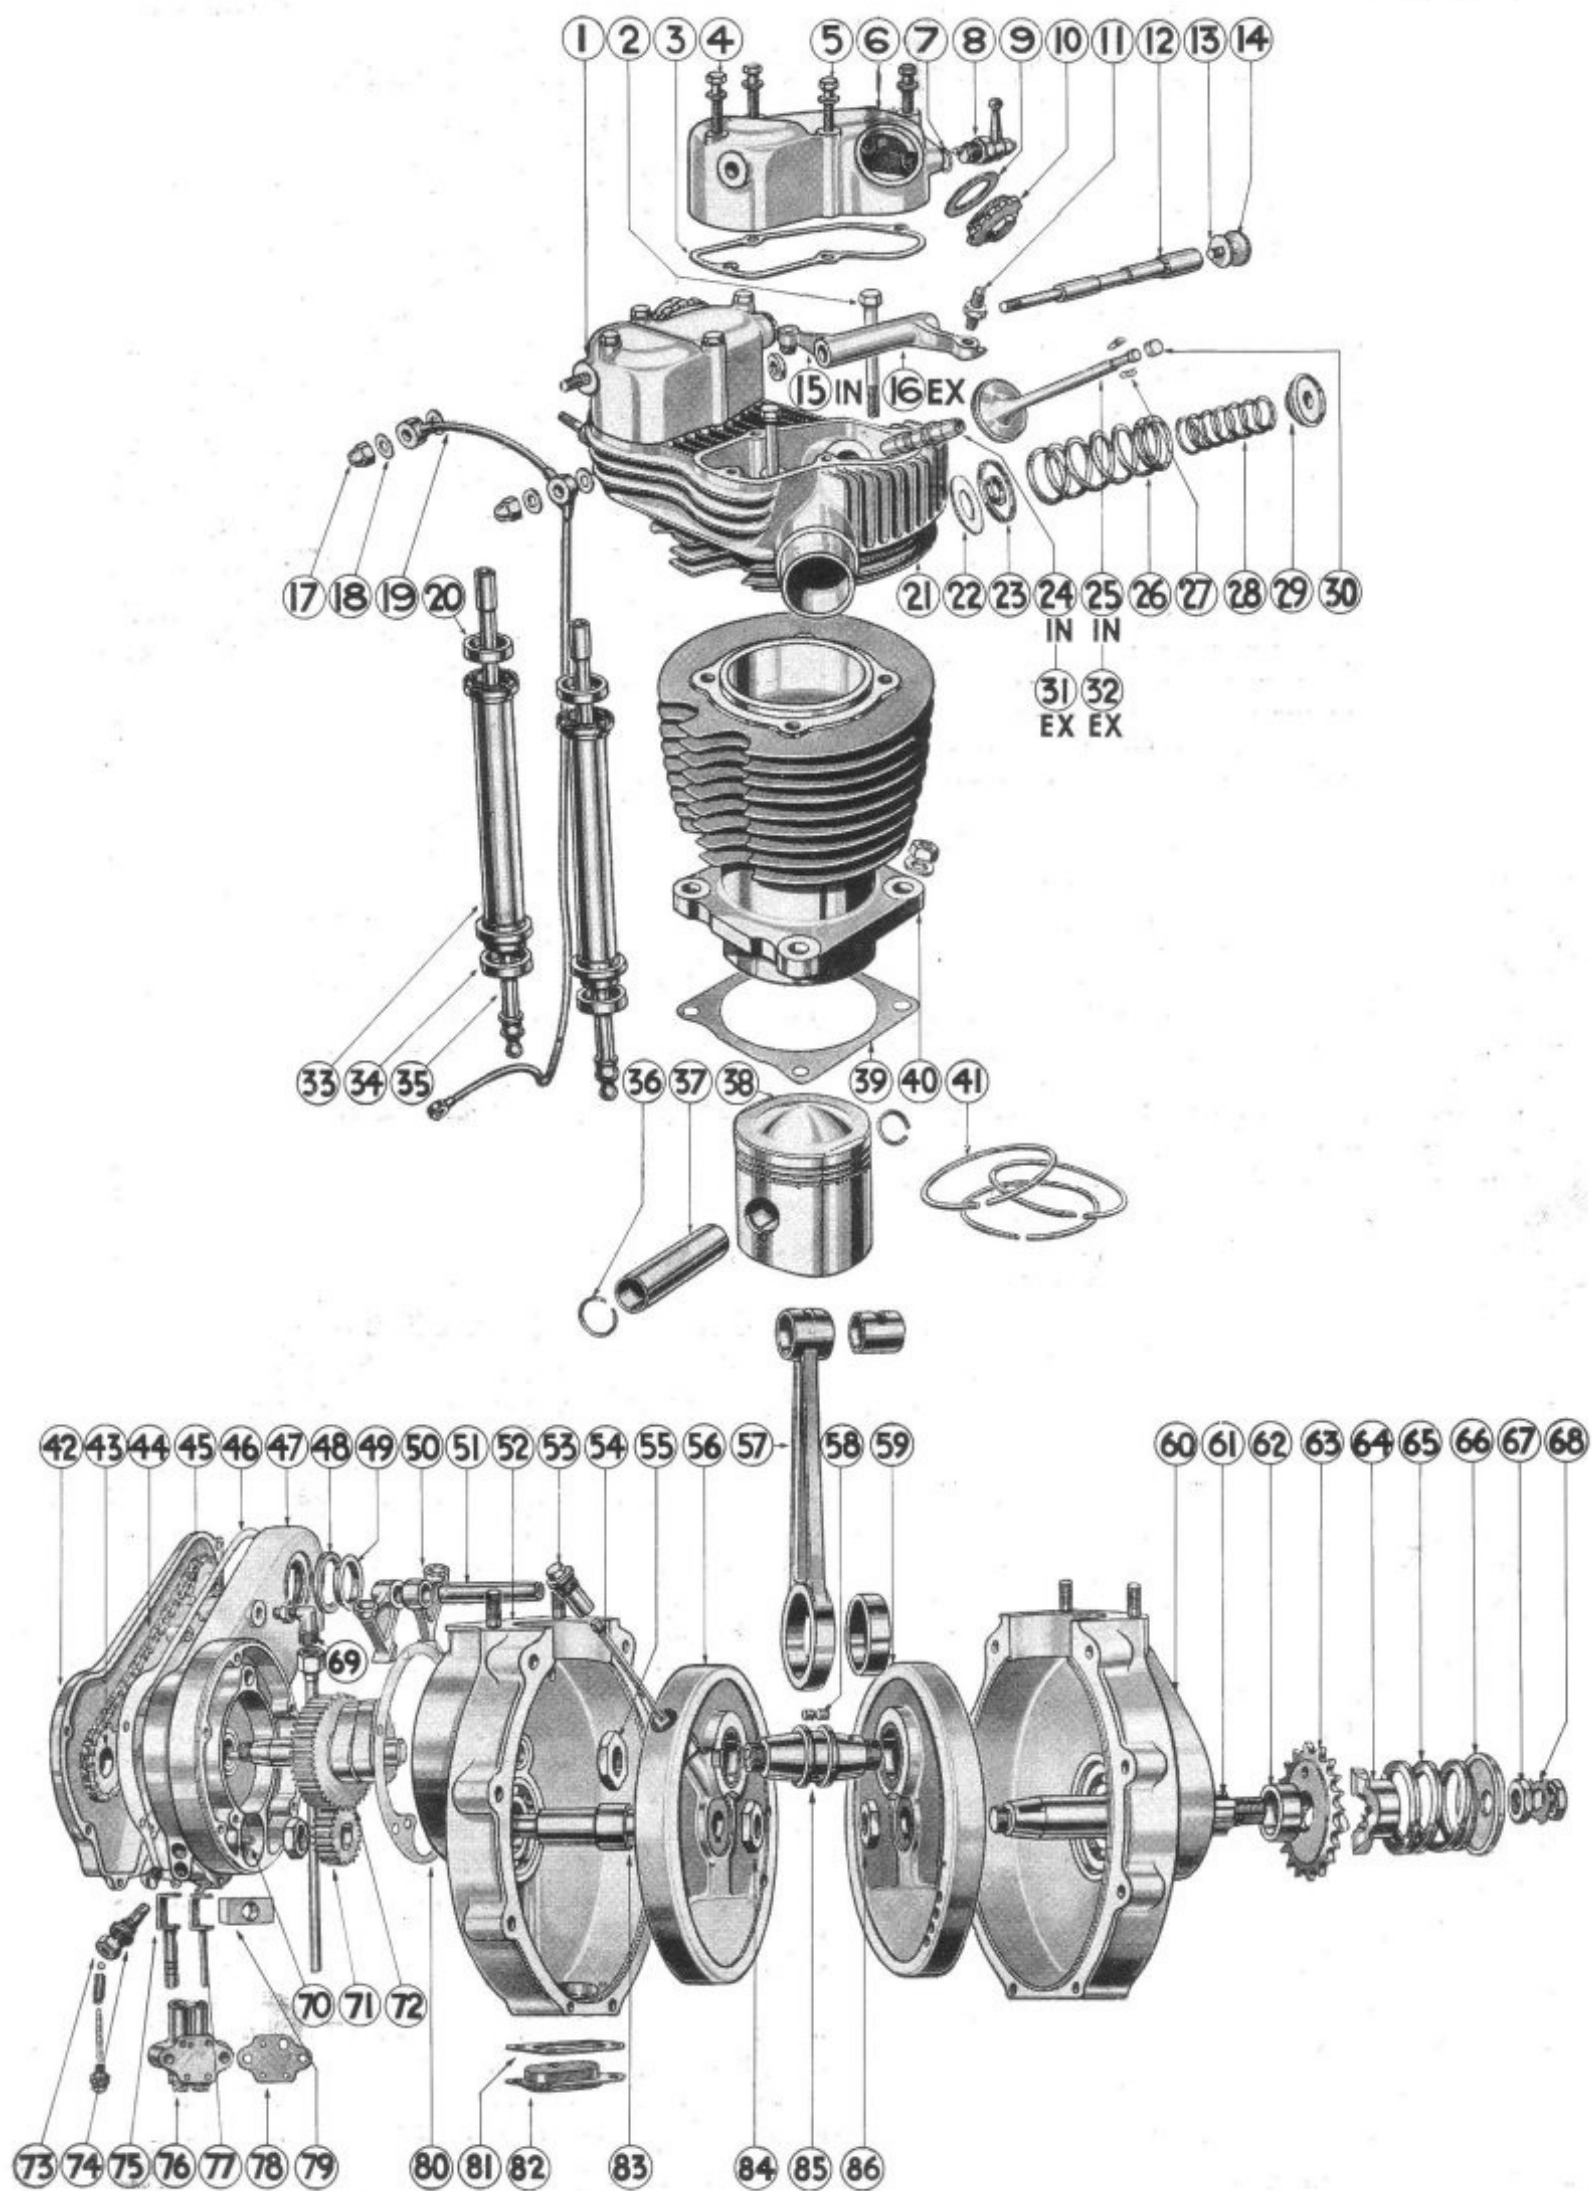

Fig. B4. Exploded View of Engine Assembly.
12. Timing Gear (See Fig. B4).
NAMES OF PARTS IN ENGINE ASSEMBLY, Fig. B4.
13. Crankcase (See Figs. B4 and 6).
14. Flywheels (See Fig. B4).
2. Flywheel Oil Purifier (See Fig. B4).
3. Gauze Oil Filters (See Figs. B4 and 8).